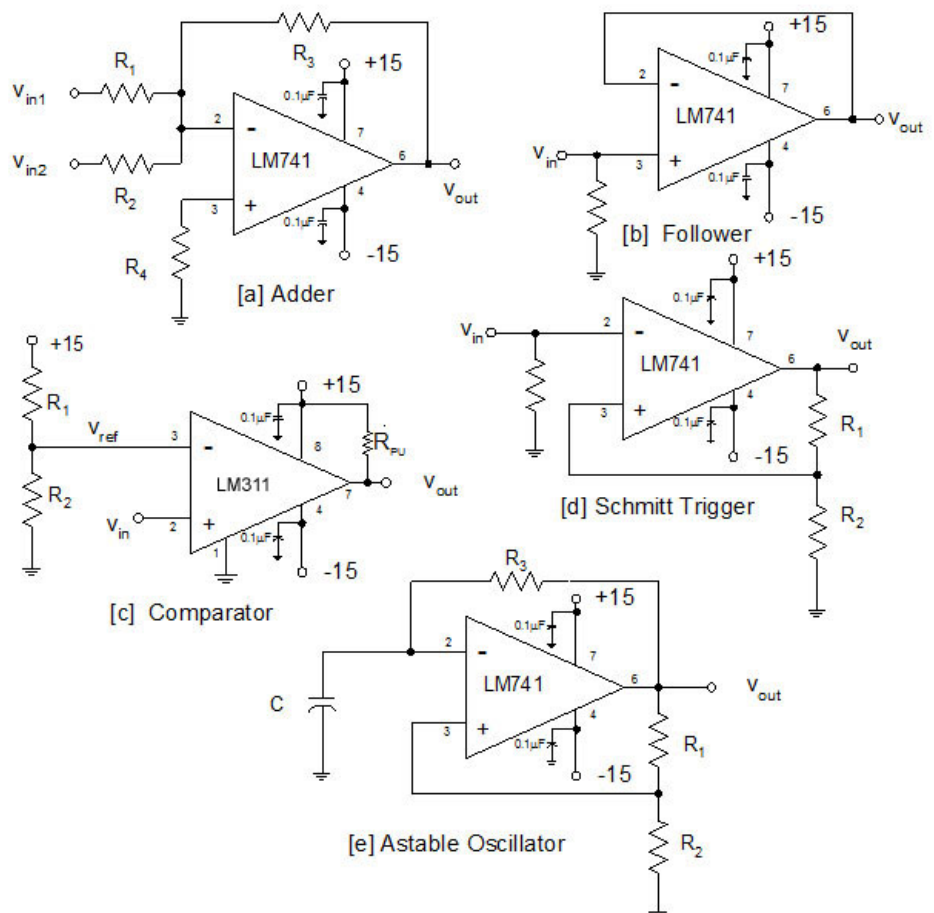

Figure 3
1. Figure 3[a] shows the configuration of an inverting adder. Select the resistor values such that $v_{out} = -(1.5v_{in1} + 3v_{in2})$. Select the value of resistor R_4 to minimize the effects of input bias current. Build the circuit and confirm its performance by applying DC voltages to each input. One voltage can be the +5 V DC supply, the other can come from your function generator offset voltage [turn off the AC output]. Be sure not to drive your output into saturation with large input voltages.
2. Construct the voltage follower [unity-gain buffer] of Figure 3[b]. Omit the resistor to ground.
3. Figure 3[c] shows the circuit configuration for a comparator. (Note: the device is a LM311 with different pinouts.) Resistors R_1 and R_2 set the voltage level at which the circuit output will switch between positive and negative saturation. Due to the internal capacitor required to stabilize IC's designed for negative-feedback amplifier operation, and the nature of the output stage, driving such an amplifier into saturation can require a long time for it to recover once the input stimulus changes. This makes the op-amp a pretty bad choice for use as a comparator at higher frequencies. [Comparators are usually operated without feedback.] Thus, a series of products specifically designed for use as comparators has been developed. These devices have open collector outputs and thus require an external resistor connected to the positive supply rail in order to operate properly. The size of the external resistor will depend on the amount of current needed to drive the load when the output transistor is "on" [saturated] and current flows from the positive supply through the load resistor to the load on the output. Typical resistor values are in the 1.0k Ω to 10k Ω range. *This resistor is labeled R_{PU} (R pull up) in the schematic.* Also please note that even though the comparator is connected to both the +15 v and -15v supplies, the output swings only from ground to +15 volts in the circuit shown. [The output can be arranged to drive loads referred to the positive supply or the negative supply, as well as a load referred to ground as illustrated here. See the LM311 spec sheet for more info on the use of this device. If your comparator oscillates at the transition (from low to high or high to low) point, see the spec sheet application hints for ways to cure this.]
4. Figure 3[d] shows the circuit configuration for a Schmitt trigger. A Schmitt trigger uses the operational amplifier [good for low frequencies only!] as a comparator along with positive feedback to create a “hysteretic” switch. If you analyze this circuit, you will find that if the output of the Schmitt trigger is positive, the input will have to be raised to some fraction of the output voltage before the output will switch to a negative value. It will then require the same level of negative input voltage before the output will switch positive. This circuit can be used to “compare” noisy signals that are expected to have enough difference in their values to exceed the design thresholds. In other words, the Schmitt trigger will not switch output states when only noise is presented to the input, if the noise is lower than the thresholds. The standard comparator in figure 2[c] above will change state easily [and often!] with a noisy input. Find R_1 and R_2 such that the threshold-voltage of the Schmitt trigger is approximately $1/3$ the magnitude of the supply voltage. Construct the circuit and verify your calculation.
5. In Figure 3[e] a capacitor and resistor have been added to the Schmitt trigger of Figure 2[d] to produce an oscillator. Show the output waveform in your lab report; also show the capacitor charging and discharging voltage waveform.